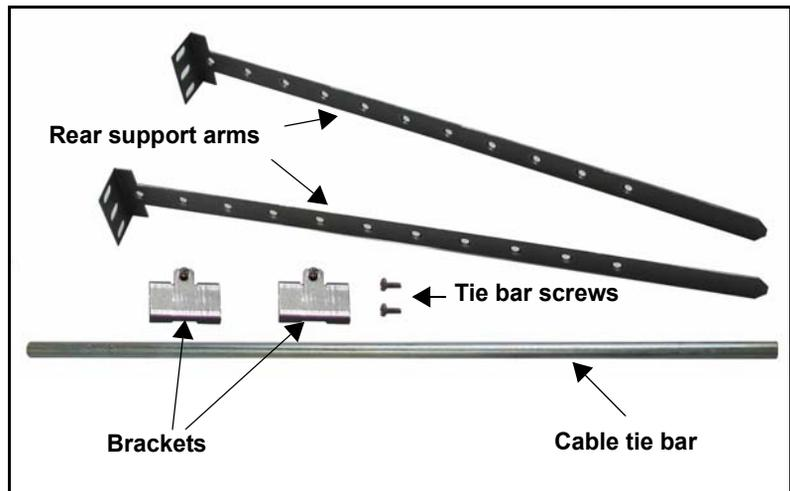

Figure 4-1. Rack Support Brackets
1. Locate the support package in the box, consisting of two support arms, two brackets with screws, a tie bar, and tie bar screws. (See Figure 4-1.)